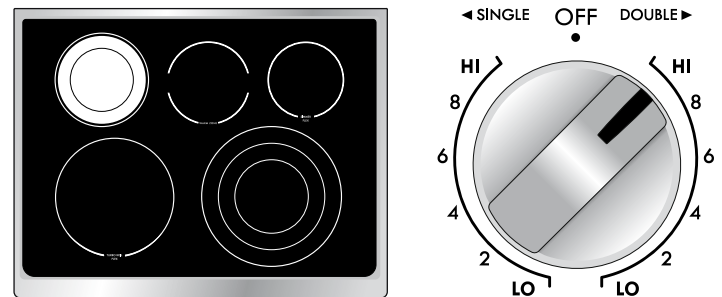
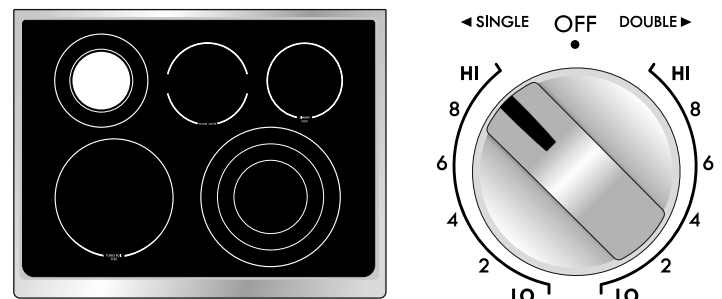

Figure 1 - Heating with both portion.
Figure 2 - Heating with inner (small) portion only.
2. Push in and turn the surface control knob clockwise to begin heating both, the inner and outer portions of the element (Marked double - see figure 1) If only the inner heating portion is needed (marked single - see figure 2) for smaller cookware, push in and turn the knob counterclockwise.